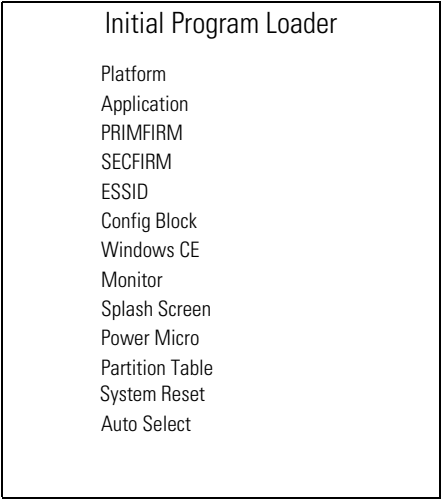

Figure 11-7. Initial Program Loader (IPL) Menu
21. To exit IPL, select the *System Reset* item from the IPL menu (see Figure 11-7 on page 11-12).